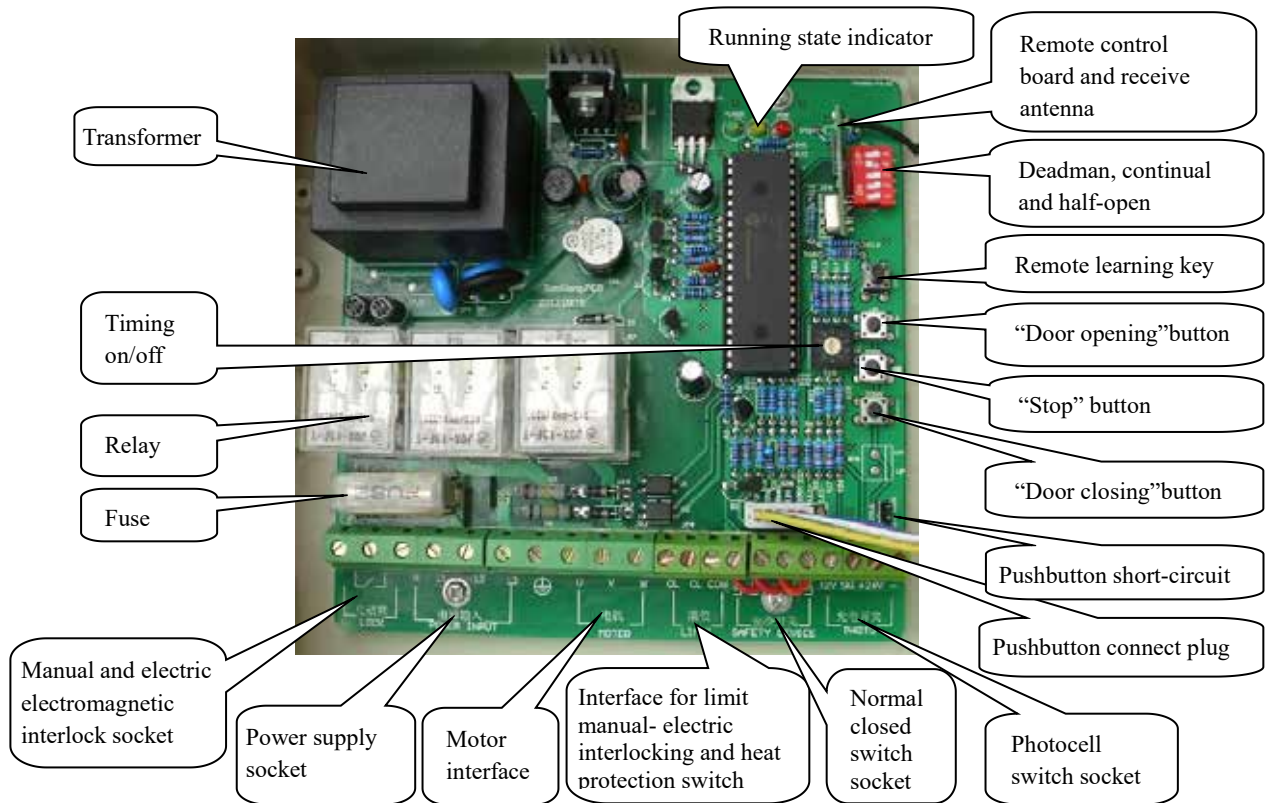
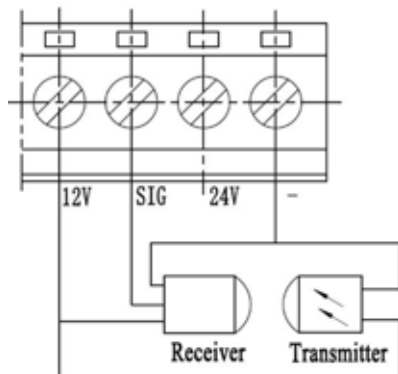
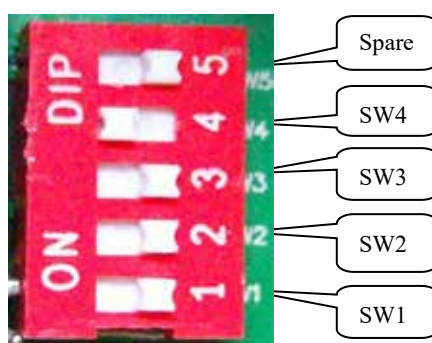

Fig. 7 Map of layout of main function components on three-phase electrical controller's circuit board
Fig. 11 Diagram for wiring of photoelectric switch on three-phase electrical controller's circuit board
Fig. 12 Diagram of switches for three-phase electrical controller circuit board's Deadman, linkage and half-open functions
3.2.2.2 The "upward", "stop", "downward" and "emergency stop" buttons on control circuit board to control the drive's operation; the "button short-circuit jumper" and control panel's buttons can be switched, for installation and debugging (Fig. 7 and Fig. 9).
3.2.2.3 Control circuit board can define the drive's operation status of " Deadman", "linkage" "half-linkage (between upper and lower limit, the same below)", "full-linkage" at "upward" or "downward" mode (Fig. 7 and Fig. 12).
3.2.2.4 "Delayed automatic closing" function allows 9 grades, respectively 5, 10, 20, 25, 50, 100, 120, 180, 240 sec. Upon the termination of due delay time, the drive will automatically run to lower limit and stop; when "Delayed automatic closing" function is turned off, the "door closing" action will be manually implemented via "downstream" button (Fig. 7 and Fig. 13).
3.2.2.5 When receiving the drive's running limit on/off signals, control the drive and stop the running respectively, in the upper and lower limit switches' action (Fig. 7 and Fig. 8).
3.2.2.6 When receiving the drive's manual and electric interlocking protection on/off signals, manually operating the drive for "upward" and "downward" movement, manual and electric interlocking protection switch in the loop falls into short-circuit, and the drive can not be electrically operated; the circuit can be controlled in no manual operation state, and the drive can be electrically operated (Fig. 7 and Fig. 8).
3.2.2.7 When the drive is electrically controlled, direct-acting tubular electromagnet controlling manual and electric interlocking, shielding manual operation; when electrical operation stops, tubular electromagnet is power off, and the drive can be manually operated (Fig. 7 and Fig. 8).
3.2.2.8 When receiving the motor's thermal protection switch signals, and the thermal protection switch falls into short-circuit, electrical operation stops; when thermal protection is restored, electrical operation can recover by pressing switches (Fig. 7 and Fig. 8).
3.2.2.9 Can connect and respectively receive the external plug-in normally closed type switch(including anti crushing protection, door edge punching bottom protection, door-in-door protection, wire rope breaking protection, torsion spring break protection, etc.)signals, control drive switching circuit state to stop running(Fig.7, Fig.8 and Fig.10).
3.2.2.10 Can connect and respectively receive the external 12VDC or 24VDC normally open type photoelectric sensor (such as infrared) safety protection switch signals, the drive running should be stopped, then immediately ascend to “upper limit” or preset “half-linkage” position and then stop(Fig.7, Fig.18 and Fig.11).
3.2.2.11 Circuit board is provided with remote control function, to receive remote control transmitter signals and accordingly control the drive for "upward", "stop", "downward" status, with necessary principle of panel switch’s priority in remote control (Fig. 7 and Fig. 14).
3.2.2.13 Running state indicator lamp is provided (Fig. 7 and 3.2.5).
②. in parallel The open limit switch (for door opening), and close limit switch (for door closing) was in parallel, they in series with the electric / manual interlock switch and over heat protection switch, which have been wired before the door opener is delivered from the factory, When connect the wire, please plug the 3 outgoing line’s termina into the terminal shown in Fig. 7 and Fig. 8.
③. When the door opener delivered out from factory, the motor, ground connection and electric/ manual interlock total 3 group connecting line’s main motor terminal has been connected; when the customer installation & wiring in the control box, should separately connecting the motor, ground connection and electric/ manual interlock connection’s outgoing line’s terminal into the terminal shown in Fig.7 and Fig.8.
⑤. Wiring of photoelectric safety protection switch: circuit board provides two power supply interfaces (DC12V and DC24V) which can be selected by users according to the working voltage of photoelectric switch (such as the wiring at DC12V shown in Fig. 11); the SIG terminal is photoelectric switch's signal entrance, when the door body is falling, if the interface receives DC voltage signal (12V or 24V), the door body immediately stops falling, then immediately lifts upward to the upper limit.
Function selection (Fig. 12):
The indicator is installed on the control box's circuit board (as is shown in Fig. 7):